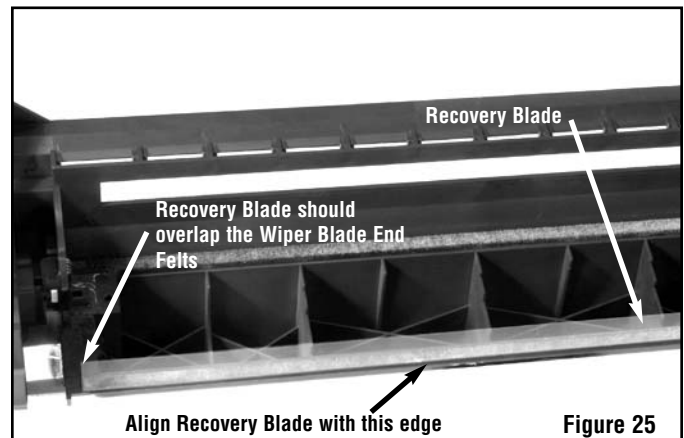

Figure 25
2. Position the Recovery Blade so that it overlaps the Wiper Blade End Felts, and is aligned with the front edge of the cartridge body. See figure 25.